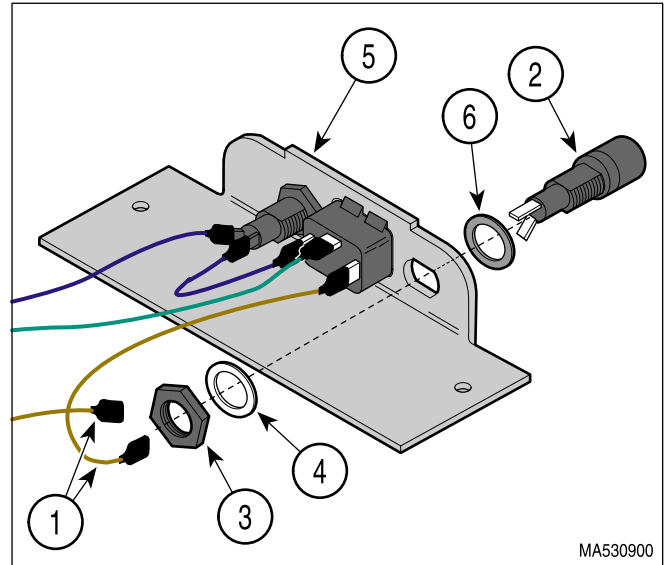

Figure 4-50. Fuse Holder Removal / Installation
- (1) Remove power inlet bracket. (Refer to: Removal - steps 1 thru 5 of para 4.34).
- (2) Tag and disconnect two wires (1, Figure 4-50) from terminals of fuse holder (2).
- (3) Remove nut (3), lockwasher (4), and fuse holder (2) from power inlet bracket (5).
- (4) Remove gasket (6) from fuse holder (2).